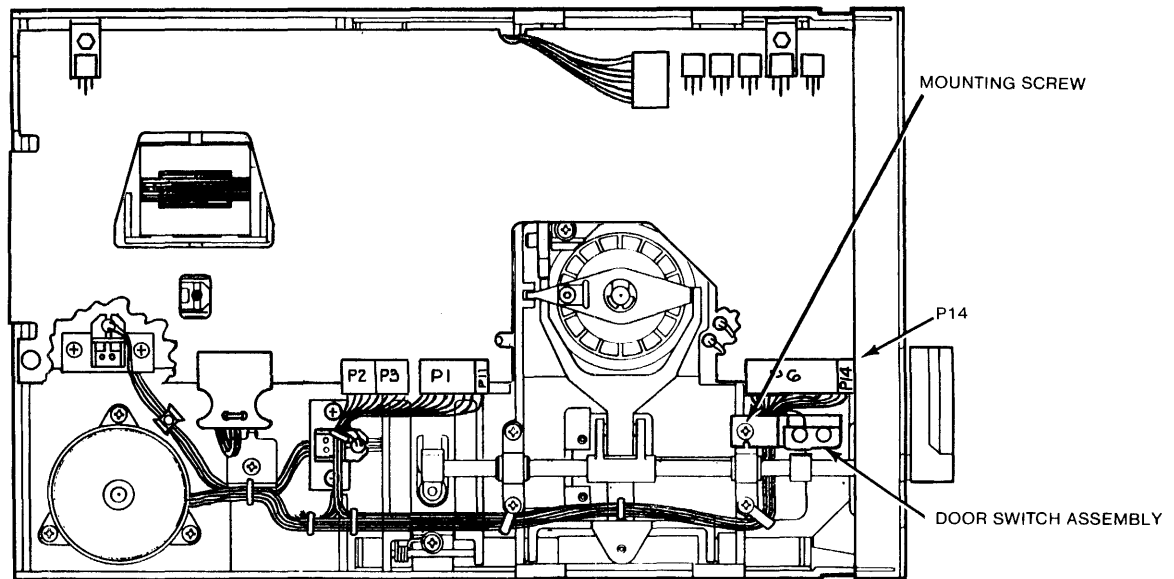

Figure 5-15
- B. Remove the mounting screw from the door switch bracket (see Figure 5-15).